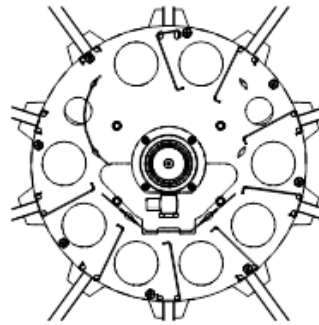
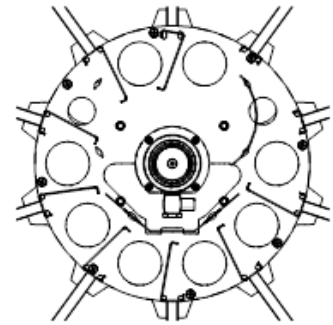

Fig. 10: For take-off on right
Fig. 11: For take-off on left
- Respect the take-off direction when mounting the shell plates (see Fig. 10 and Fig. 11). The details can be found on the type plate.